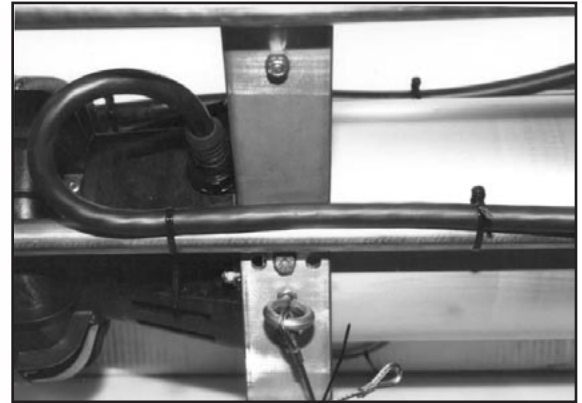

Figure 1
B. Attach your Rain Bird® power cable to the aerator. Place the unit on a flat surface with the float down. Align the pigtail connector on the cable up to the pin configuration on the bulkhead connector. **HAND TIGHTEN** the coupling nut onto the bulkhead connector. **DO NOT OVER TIGHTEN - OVER TIGHTENING WILL CAUSE A FRACTURE IN THE CONNECTOR AND COULD RESULT IN A SHORT CIRCUIT.** (See Figure 1)
C. Fasten the strain relief to the float. Using two ty-wraps secure the cable to the side of the support frame and place a small loop in the cable between the last ty-wrap and the connector. (Refer to figure 1). **ONLY PLACE A SMALL LOOP IN THE CABLE, DO NOT ALLOW THE CABLE TO TOUCH THE FLOAT.**